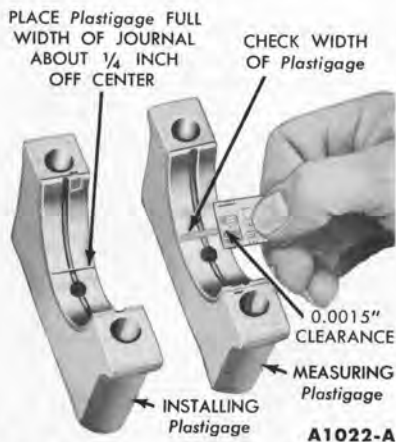

FIG. 53—Installing and Measuring Plastigage—Engine Installed
10. Place a piece of Plastigage on the bearing surface the full width of the bearing cap and about $\frac{1}{4}$ inch off center (Fig. 53).